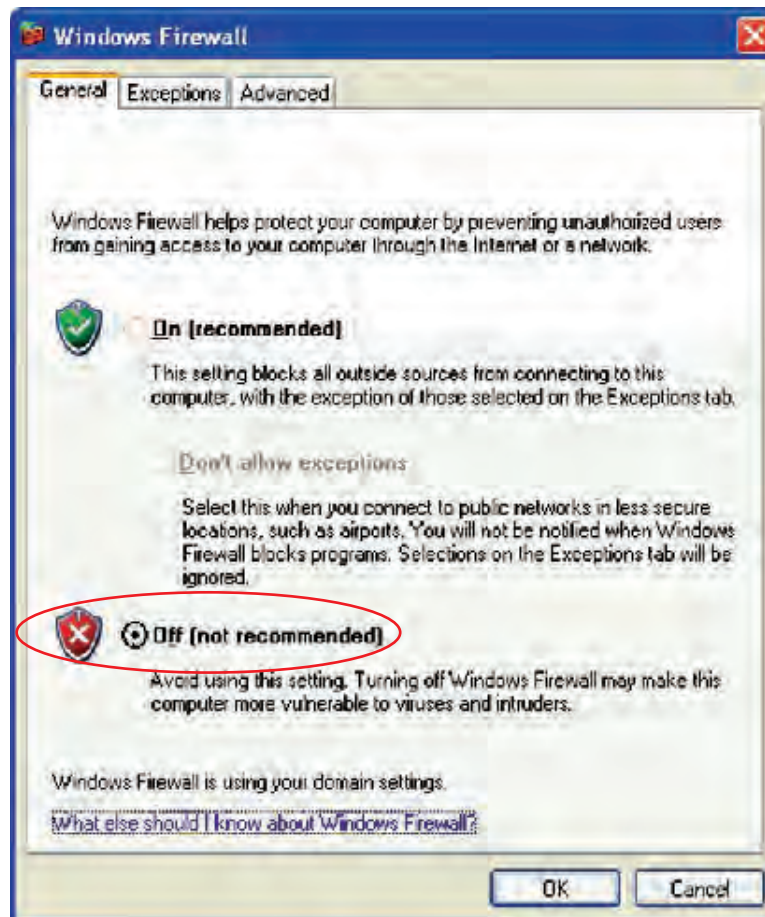

Figure A-2. Disabling the Windows® Firewall.
4. Select **Off** and click on **OK** to disable the firewall. (Note to re-enable the firewall, select **On** and click on **OK**.) See Figure A-2.